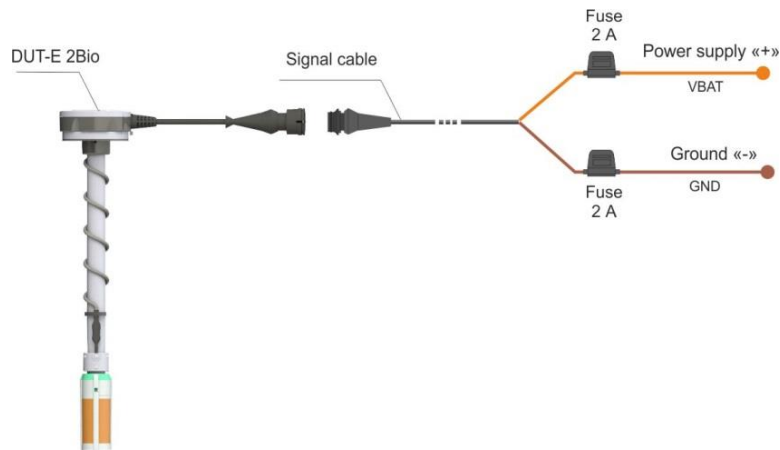

Figure 26 — DUT-E 2Bio CAN/232/485/AF/I to onboard electrical network scheme of connection
- 3) When connecting DUT-E 2Bio to onboard electrical network of Vehicle, use **fuses** from delivery set in accordance to scheme of connection (see figure 26). Nominal fuse current is not more than 2 A.